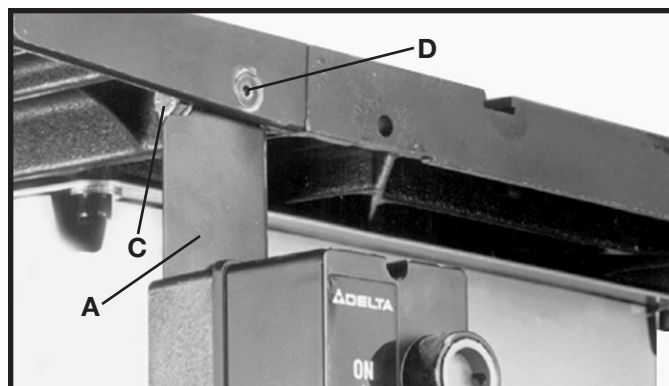

Fig. 13
3. Attach the side of switch bracket (A) Fig. 13, to the inside of extension wing at the front of the saw using the 7/16-20x1-1/4" screw (C) and 7/16" flat washer. Tighten screws (C) and (D) securely.